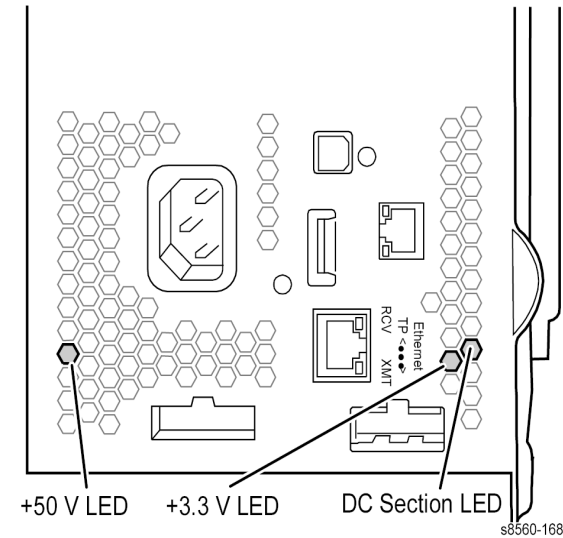

Figure 2 Power Supply Status LEDs
1. Check the Power Supply Status LEDs (Figure 2), they should be bright.